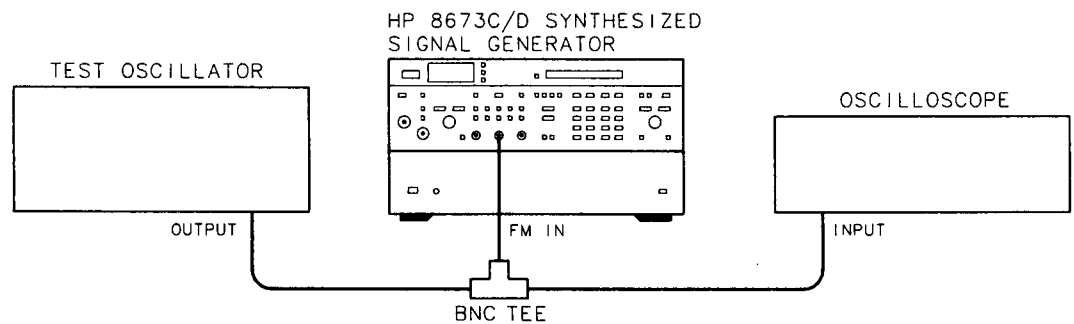

Figure 3-9. FM Functional Check Setup
37. Set the test oscillator to 3 MHz at minimum output level or 0V. Then, connect test oscillator and oscilloscope to the Signal Generator as shown in Figure 3-9.